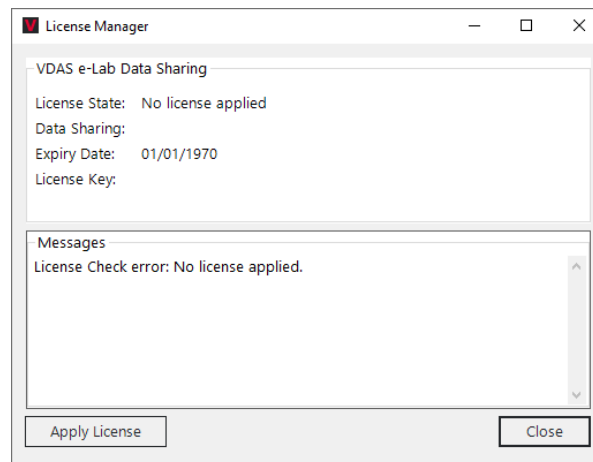

Figure 7 License Manager Window
3. The License Manager window will open (Figure 7), select Apply License.